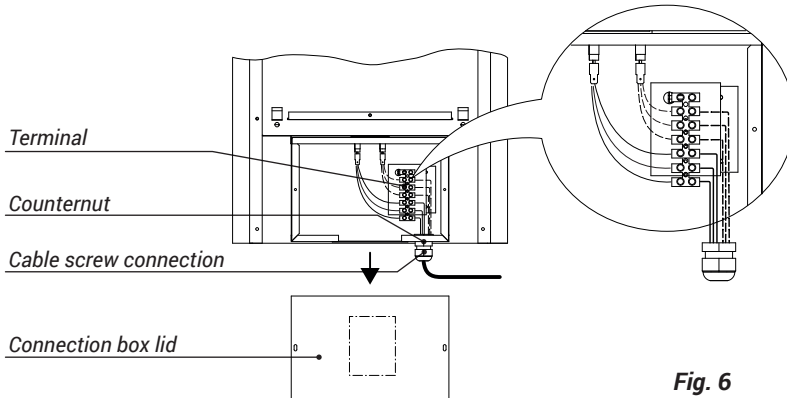

Fig. 6
- Electrical connection acc. to Fig. 6 and connection example.